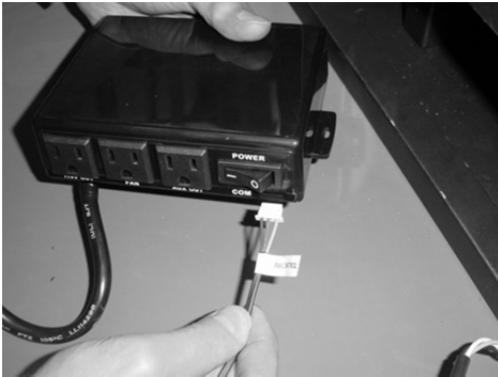
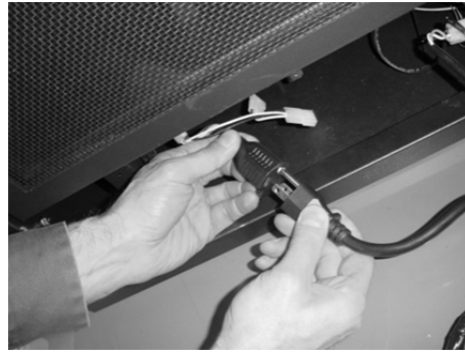

Figure 22
Figure 23
- 15 Place the fan controller near the front of the fireplace to the left and connect it to the wiring harness (see Figure 22). Attach the power cord from the fan controller to the AC connection (see Figure 23). **MAKE SURE TO TURN THE FAN CONTROLLER ON** (“-“ SYMBOL).